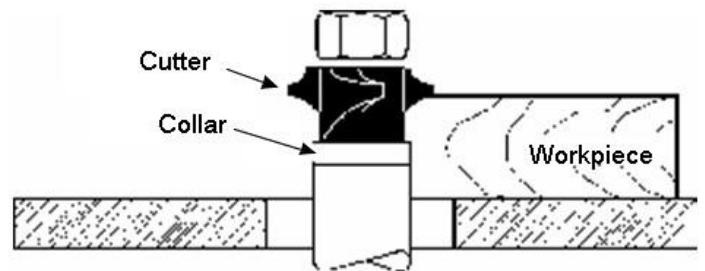

Fig. 38
1. When the collar is used below the cutter, as shown in Fig. 38, the progress of the cut can be seen throughout the operation. However, any accidental lifting of the work will gouge the wood and ruin the workpiece.
2. When the collar is used above the cutter Fig. 38, the cut cannot be seen. But this method offers an advantage in that the cut is not affected by slight variations in the thickness of the stock. Also, accidental lifting of the workpiece will not gouge the workpiece; simply repeat the operation to correct the mistake.